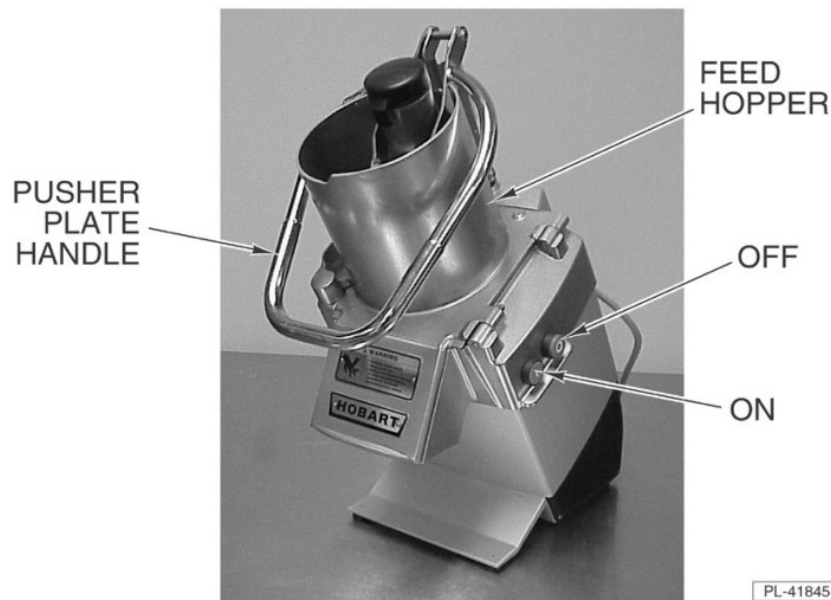

Fig. 7
The pusher plate presses food items against the cutting blades. It is controlled by a large pusher plate handle that wraps around the feed hopper (Fig. 7).
The food processor can be started by pressing the green ON button and stopped by pressing the red OFF button (Fig. 7). The ON button needs to be pressed only if the OFF button is pressed or after connecting the electrical power cord.
4. Move the pusher plate to the right and lower it into the feed hopper (Fig. 7). The food processor will start when the pusher plate enters the feed hopper.